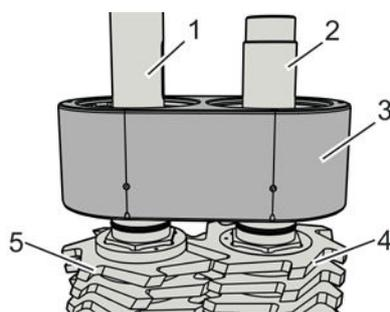

Fig. 133: Positioning the upper bearing housing
6. ➔ Position the upper bearing housing (Fig. 133/3) in the correct position onto the cutter block shafts (Fig. 133/1, 2) and align the hexagon portions of the rotating slide ring sealing parts so they are positively locked.